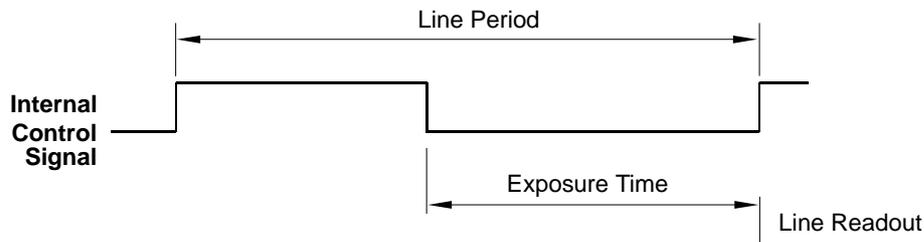

Fig. 26: Free Run, Programmable Mode
- In **free run programmable** mode, line acquisition begins on the rising edge of the ExSync signal. The pixels are exposed and charge is accumulated when the internal control signal is low. The pixel values are read out of the sensor on the rising edge of the internal control signal as shown in Figure 26.